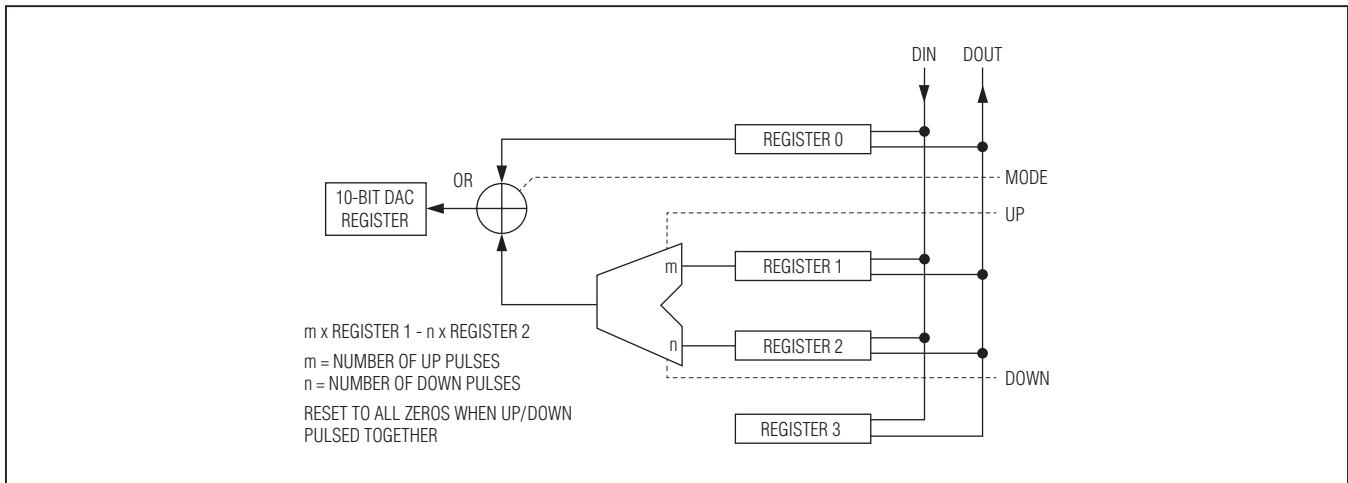
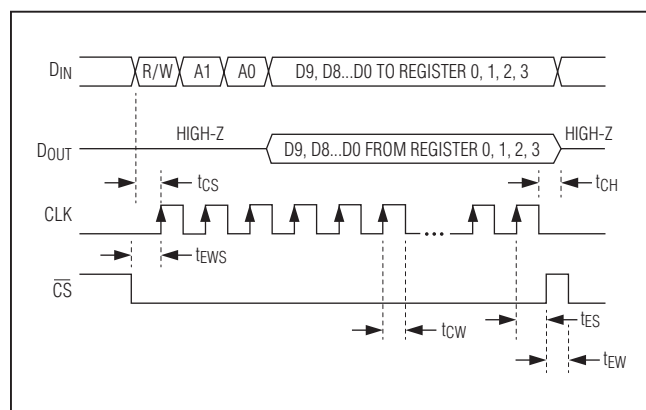
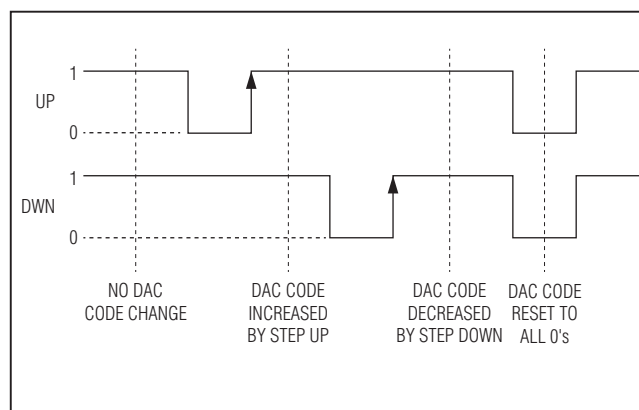

Figure 1. Register Configuration Diagram
Figure 2. SPI Timing Diagram
Figure 3. UP/DWN Control Diagram (Mode = 1)
Figure 1 shows the configuration of the internal registers of the device, and Figure 2 shows the timing of the SPI bus. Register 0 is used to set the DAC code to the desired value, register 1 selects the step-up code, and register 2 selects the step-down code.
in Figure 1. This is applied to the 10-bit DAC register that drives the DAC. To increase (decrease) the code using the UP (DWN) pin, the DWN (UP) pin must be high and the UP (DWN) pin should be pulsed low to high. The part is designed to produce no wraparounds when using UP and DWN stepping, so the DAC code maxes out at 1023 or goes no lower than 0. See Figure 3 for the UP and DWN control operation.
The device can be controlled with a 4-wire SPI-compatible serial interface. Figure 2 shows a timing diagram for the interface. In the write mode, a 13-bit word is loaded into the device through the DIN pin with  $\overline{\text{CS}}$  set low. The first bit of the word in the write mode is 0, and the next two bits select the register to be written to. See Table 2. The next 10 bits contain the data to be written to the selected register. After the 13 bits are shifted in, a low to high  $\overline{\text{CS}}$  command is applied and this latches the 10 bits into the selected register. The entire write command is ignored if  $\overline{\text{CS}}$  is pulsed low to high before the last data bit is successfully captured.